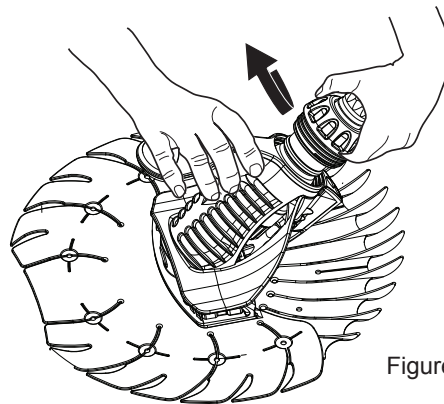

Figure 9
4. Insert the engine into the body and thread the handnut down tight (see Figure 9).